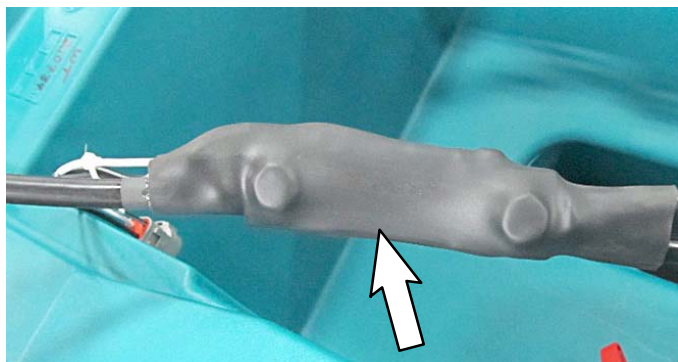

FIG. 20
22. Slide the heat shrink (25) over the shunt and apply heat (FIG. 20)